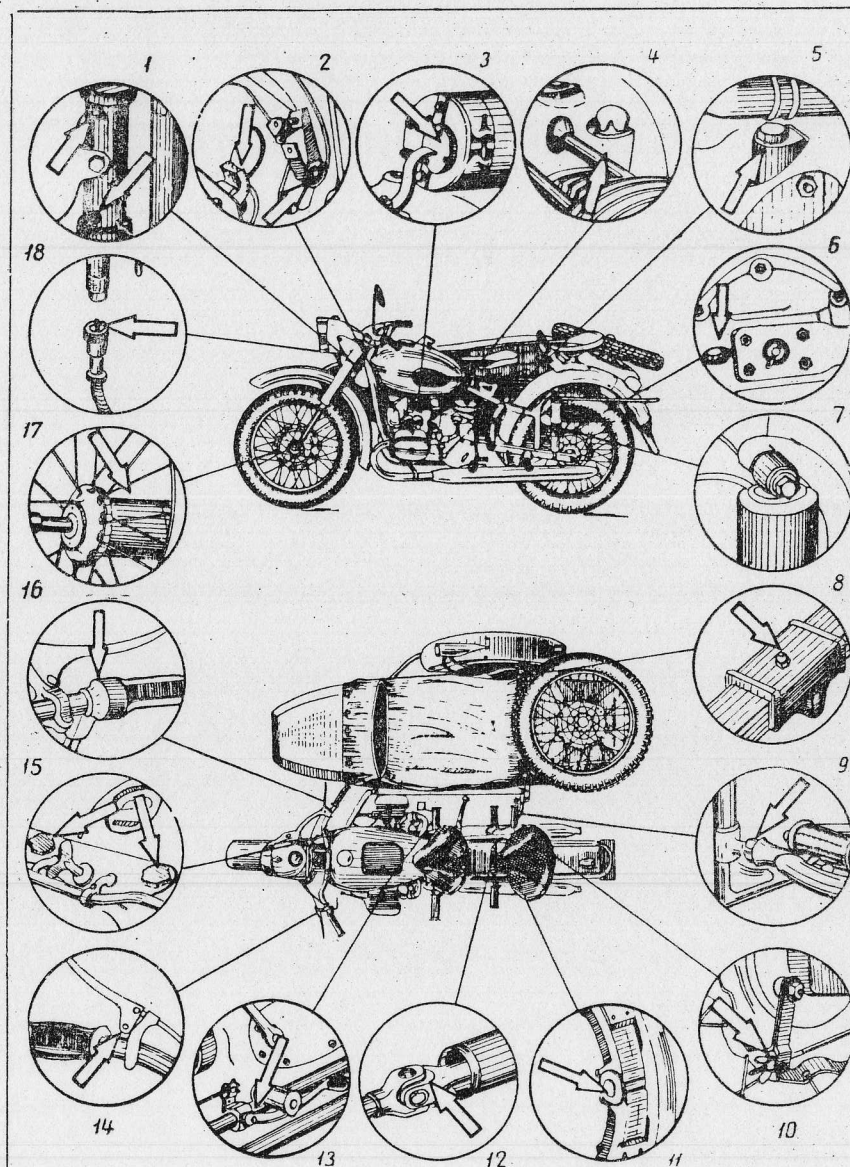

Fig. 35. Lubrication Chart:
Lubrication chart of the motorcycle with indication of points to be lubricated is given in Fig. 35. For the motorcycle units and parts the scope of maintenance jobs and the time for their execution are described in various sections of this Manual and summarized in the tables.
If the motorcycle is operated on dusty roads, lubricate the spring hangers (refer to Fig. 35, item 8)	Grease YC-2